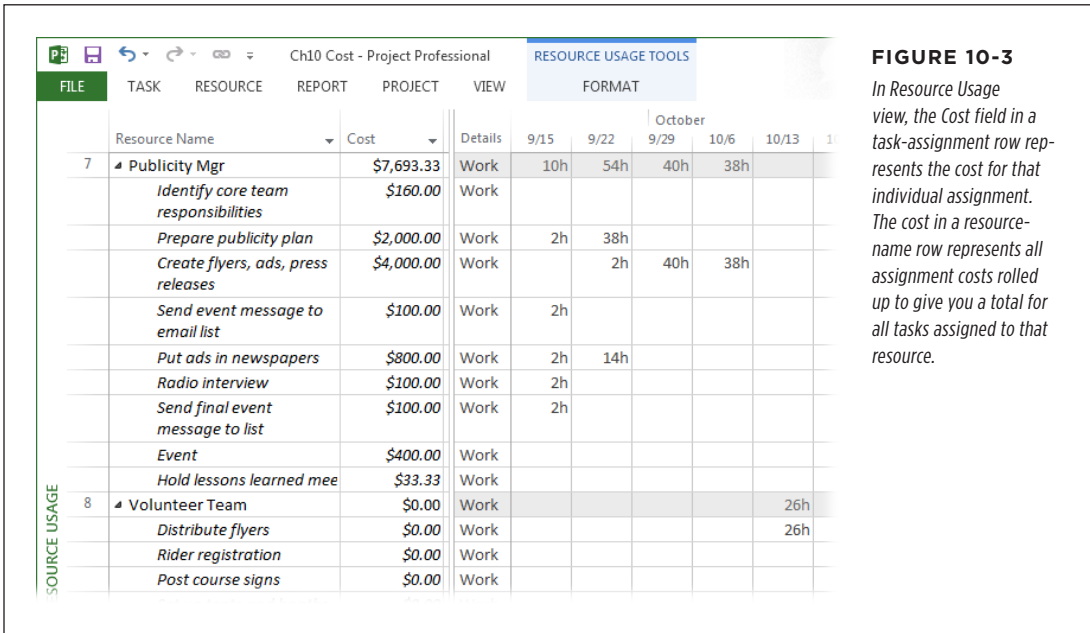

FIGURE 10-3
- **Total cost for a resource.** Display Resource Sheet view (View→Resource Sheet), and then insert the Cost column somewhere in the table (right-click a column heading in the table and choose Insert Column). The Cost value for a given resource is the total cost for the resource for all its assigned tasks, based on the standard rate, overtime rate, cost/use, or other specified resource cost. This technique is perfect when you want to see how much you’re spending for a specific work resource, such as a contractor, or a specific cost resource, such as travel or training. You can also see the cost for a resource in Resource Usage view in the resource’s summary row, as shown in Figure 10-3.
- **Cost for assignments.** If you want to see the cost of the assignments associated with a task or a resource, display Task Usage view or Resource Usage view, respectively. As usual, you can either apply the Cost table or insert the Cost column in the Usage table (or whatever table you want to use), as shown in Figure 10-3.